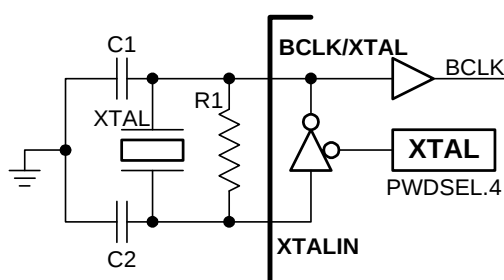

Figure 44. Crystal oscillator input.
2. A crystal oscillator amplifier—connected internally between the BCLK/XTAL and XTALOUT pins—supports 32 kHz operation and frequencies from 2 MHz up to 40 MHz, as shown in Figure 44. A crystal and the external circuitry listed in Table 29 generate the desired frequency. The crystal oscillator amplifier also supports ceramic resonators. The crystal oscillator output can be turned off during power-down mode by setting the XTAL bit (PWDSSEL.4). Frequencies above 24 MHz require the crystal to operate in the third overtone. The crystal operates in its fundamental